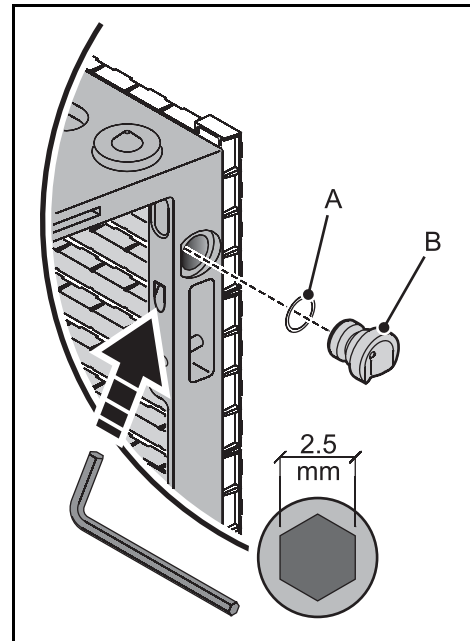

Figure 14: Removing side-to-side alignment cones
1. See Figure 14. Unscrew the 2.5 mm Allen bolts shown and remove the straight side-to-side alignment cones **B** and washers **A** close to the top and to the bottom of one side of each panel. Store all components for possible re-use.
When tearing down an installation, remove single panels starting at the bottom of the column and working upwards. Reinstall all rubber connector caps and any straight side-to-side alignment cones you removed in a curved installation (see Figure 14).